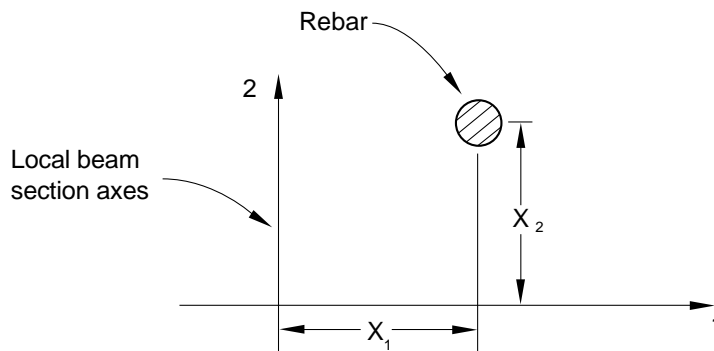

Figure 17.10–1 Rebar location in a beam section.
3. Distance X_1 (see Figure 17.10–1).
5. Edge number to which the rebar are parallel in the element's local (isoparametric) coordinate system. See Figure 17.10–2.
4. Edge number to which the rebar are parallel in the element's local (isoparametric) coordinate system. See Figure 17.10–2.
4. Orientation of rebar in degrees. See Figure 17.10–3.
6. Edge number from which the rebar are defined. See Figure 17.10–4 or Figure 17.10–7.
1. Fractional distance along edge 1, f_1 (see Figure 17.10–5).
3. Fractional distance, f_1 , locating the rebar's position in the element (see Figure 17.10–6).